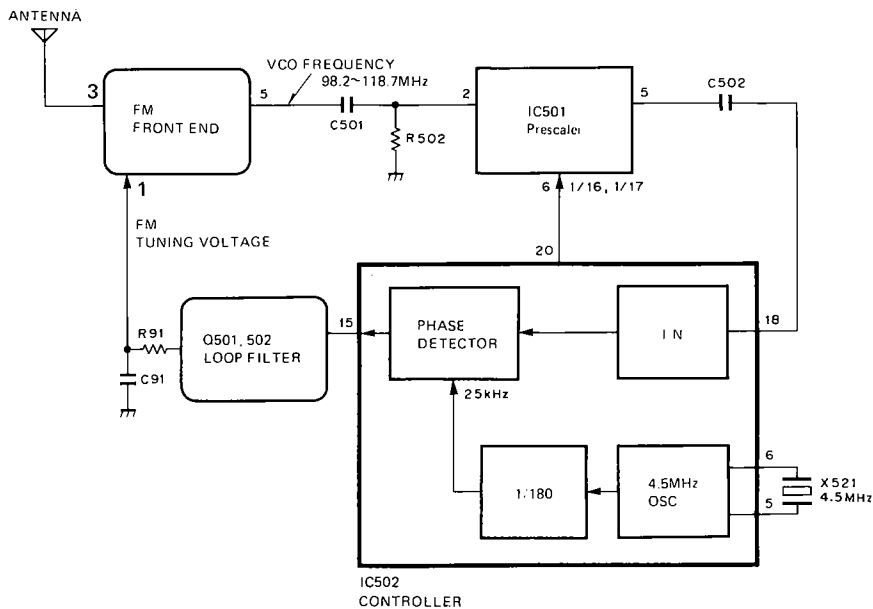

Fig. 60
● Frequency Synthesizer Section (FM) (Fig. 60)